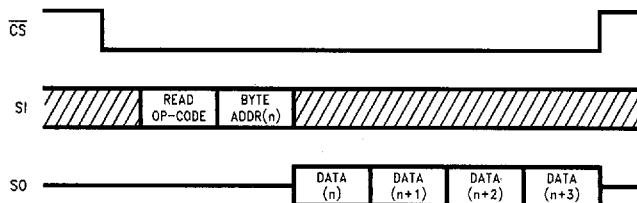

FIGURE 6. Read Sequence
and data will continue to be shifted out. When the highest address is reached (1FF), the address counter rolls over to lowest address (000) allowing the entire memory to be read in one continuous READ cycle. See Figure 6.